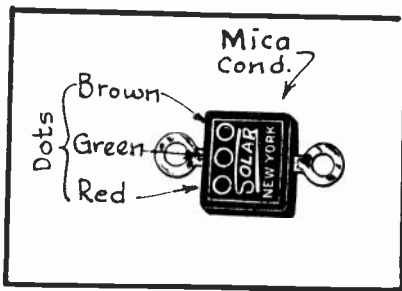

Fig. 1
SOME MANUFACTURERS OF FIXED MICA CONDENSERS EMPLOY A COLOR CODE FOR DESIGNATING THE CAPACITIVE VALUE OF THEIR UNITS. IN SUCH CASES, THREE DOTS ARE PLACED ON THE TRADEMARK SIDE AND EACH OF A DIFFERENT COLOR AS ILLUSTRATED IN FIG. 1.
1. - TO INTERPRET THE CODE, THE CONDENSER IS HELD IN THE POSITION SHOWN IN FIG. 1 AND THE DOTS ARE READ FROM THE LEFT TOWARDS THE RIGHT. THE FIRST DOT REPRESENTS THE FIRST FIGURE OF THE CONDENSER CAPACITY, THE SECOND DOT REPRESENTS THE SECOND FIGURE OF THE CONDENSER CAPACITY AND THE THIRD DOT REPRESENTS THE NUMBER OF ZEROS FOLLOWING THE FIRST TWO FIGURES.
3. - WITH REFERENCE TO BOTH FIGS. 1 AND 2 OF THIS JOB SHEET, THE CAPACITIVE VALUE OF THE CONDENSER SHOWN IN FIG. 1 WORKS OUT AS FOLLOWS: THE RED DOT INDICATES A CAPACITIVE VALUE WHOSE FIRST DIGIT IS 2; THE GREEN DOT INDICATES A SECOND DIGIT OF THIS VALUE AS BEING 5 AND THE BROWN DOT INDICATES THAT ONE ZERO FOLLOWS THE SECOND DIGIT. THUS THE CAPACITIVE VALUE OF THIS CONDENSER IS 250, MMFD. OR .00025 MFD.